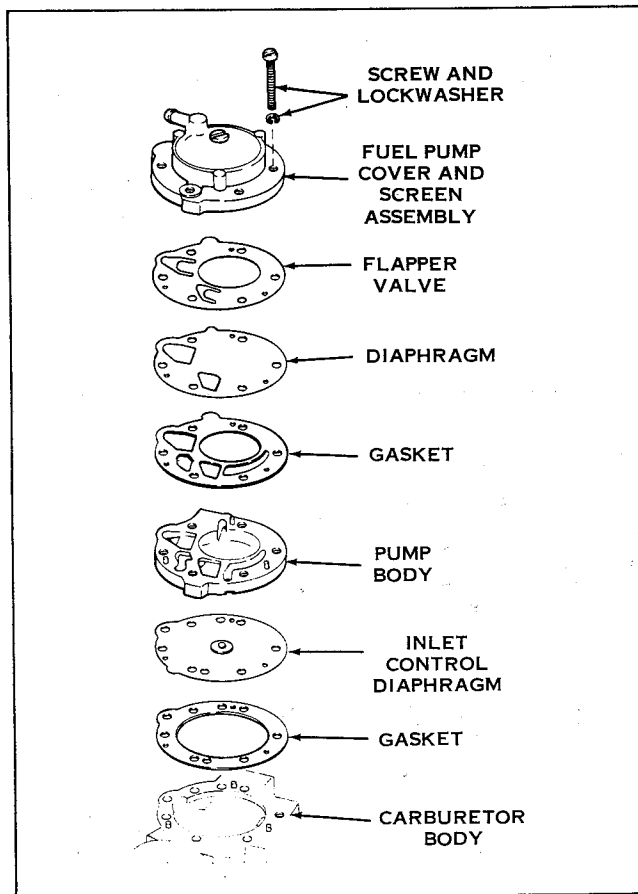

Figure 3F-34D. Carburetor Pump and Valve Section
3. Check to see that fuel inlet control lever is set flush with floor of carburetor and operates freely. See figure 3F-36.
Original pump diaphragm is a single piece unit with integral flapper valves. Replace with new 2-piece diaphragm, Part No. 27809-63A on cars below Serial No. 68D-6710. When assembling, the flapper valve section must be located against the fuel pump cover (see figure 3F-34D).
### DISASSEMBLING CARBURETOR (Fig. 3F-35)
The following disassembly procedure contains references to minor differences in carburetor construction for various years and are identified by a letter after the number. Numbers are keyed to figure 3F-35.